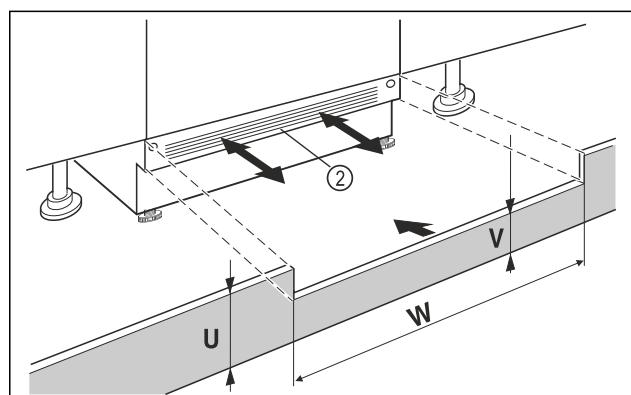

Fig. 72 Example illustration
- Put on the appliance base cover Fig. 72 (2) but do not fix it yet.
- If the base cover Fig. 72 (2) is visible, pull it so far forward that the front edge of the ventilation grille and the unit base cover form one level.
- If the base cover is concealed Fig. 72 (2), push it all the way back.
- ▶ Ensure that the ventilation slots are completely free: If necessary, cut the height of the unit base cover *Fig. 72 (U)* to size!
- ▶ Adjust the bar height *Fig. 72 (V)* under the appliance base cover *Fig. 72 (2)* along the recess width *Fig. 72 (W)*.